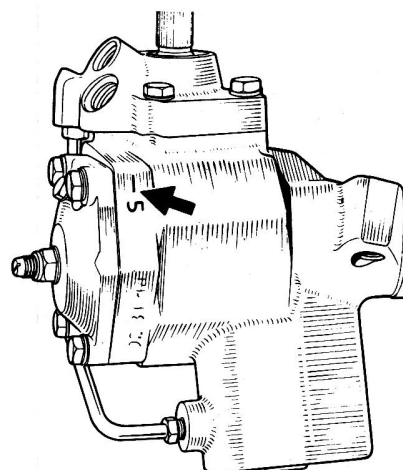

Fig.11.50. Location of depth marking on valve housing
- 2 It is important that the worm is centred in the gear housing to ensure the correct relationship between the ratio curve, the preload peak and the central position of the steering gear. Look at the worm and you will see a figure etched on it and another figure will be found stamped on the valve housing (Fig.11.50) these figures indicate the amount, in thousandths of an inch, that the worm is short and that the box is deep over design limits. Add the two datum errors together to give the thickness of shims which must be placed in the bottom of the recess in the race housing. Shims are available in thicknesses of 0.002", 0.003" and 0.010".